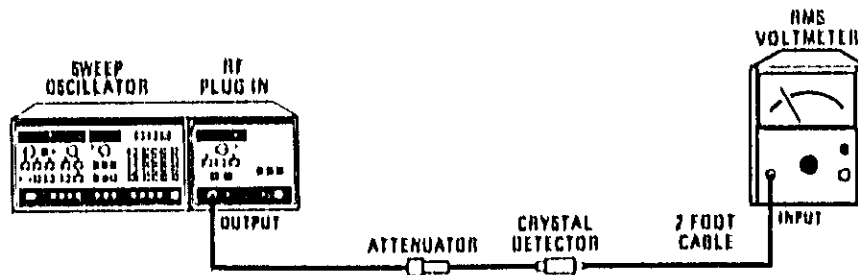

Figure 4-13. Residual AM Test Setup
1. Connect equipment as shown in Figure 4-13 using a 20 dB attenuator.